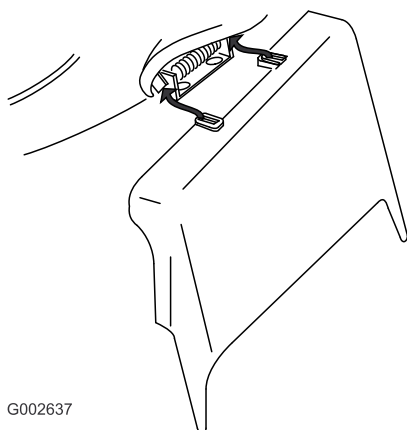

Figure 37
3. Install the side-discharge chute and close the door onto the chute (Figure 37).